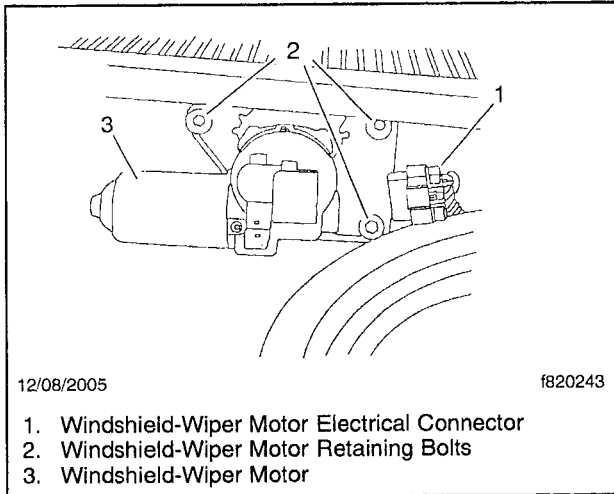

Fig. 6, Windshield Wiper Motor
9. Remove the windshield-wiper motor. See **Fig. 6**.